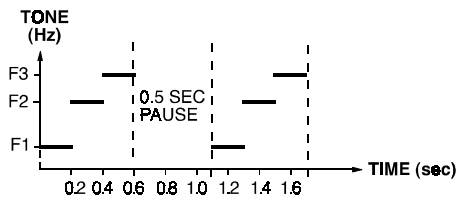

Figure 6. Pre-dialing Warning prior to Inactivity Alert
- Predialing warning informing that an "INACTIVITY ALERT" is about to be transmitted. This warning is an ascending 3-tone melody heard through the Speakerphone (see Fig. 6).
3. If the INACTIVITY ALERT function has been enabled by the installer (Location 11), and the person under surveillance has indeed failed to demonstrate activity, an INACTIVITY MELODY will be transmitted over the telephone line, together with any other message. Refer to Figure 6 for a graphic representation of this melody.